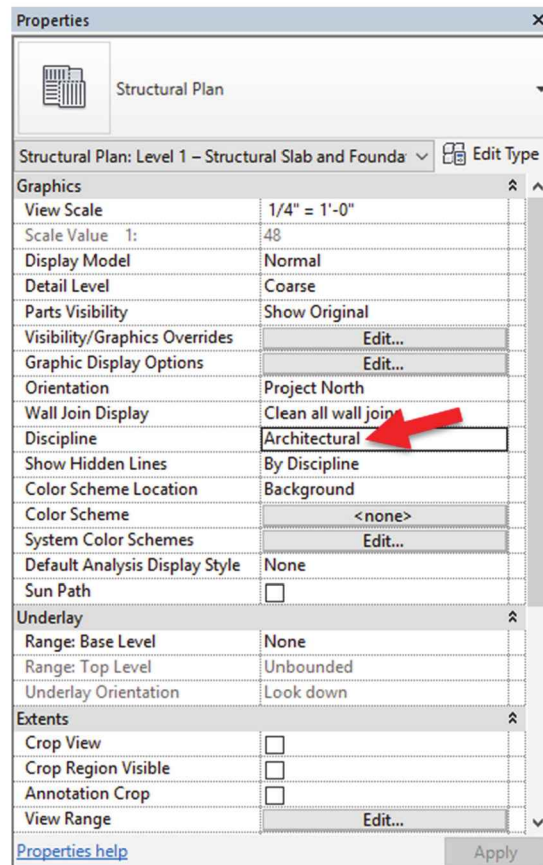

FIGURE 8-2.7 View properties – Structural Level 1
- a. Set the **Discipline** to **Architectural** as shown in Figure 8-2.7.